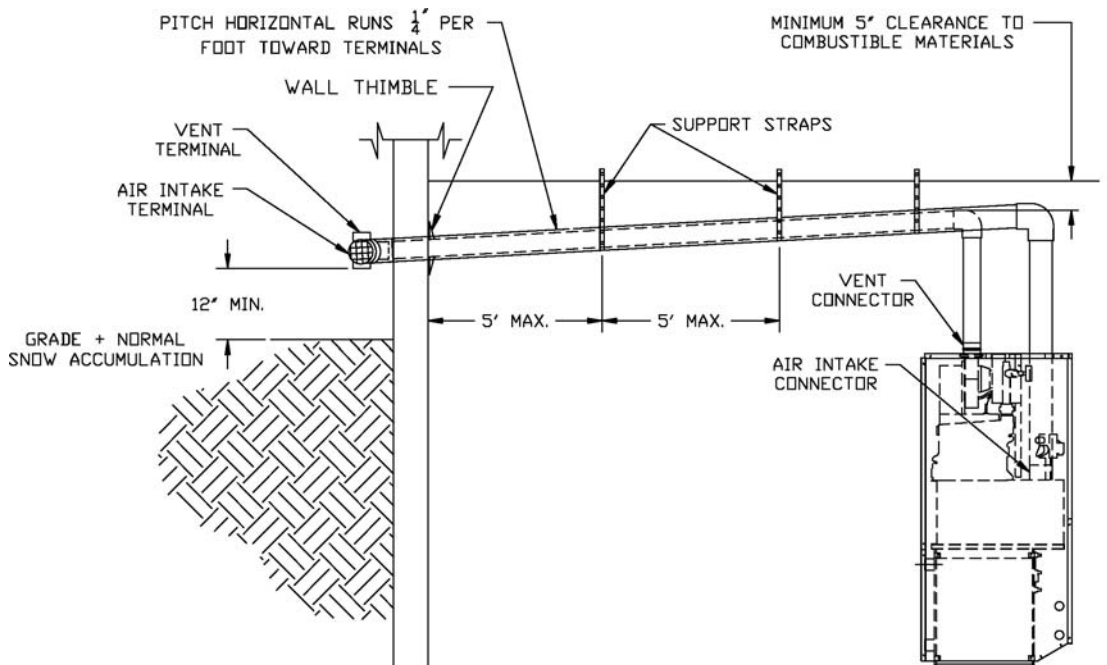

Figure 11: Recommended Horizontal Vent Installation
- a. Recommended Installation: slope toward vent terminal. See Figure 11.